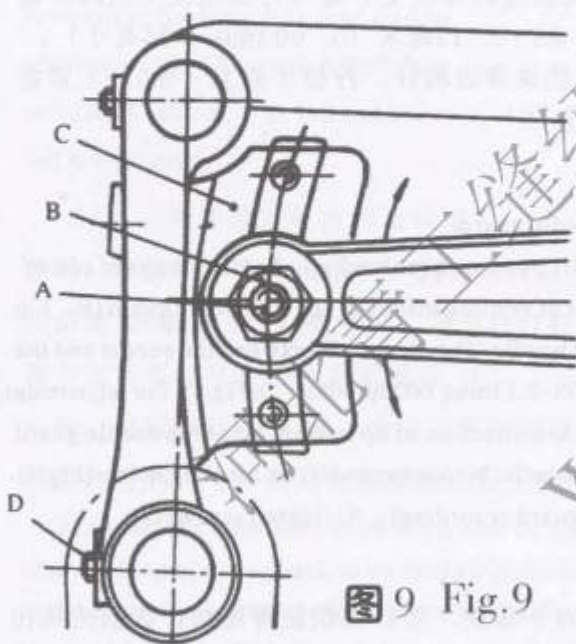

图9 Fig.9
送料牙在针板牙槽内的两侧面间隙不对称时，拧松板牙架座(图9, C)两只螺钉(D)，左右移动牙架座至要求位置后再拧紧螺钉(D)。
If feed dog are not in the center in the throat plate slots. Loosen screws rear in the feed locker (C, Fig. 9), move the feed locker right or left as required. Then retighten screws (D).
针距长短的调节,是通过牙架座(图9, C)扇形槽中的针距调节螺钉(A)的上下移动来实现的。下降螺钉(A)使针距加大,升高则缩短针距。调节时拧松螺母(B)、上下移动螺钉(A)至需要的针距后再紧固螺母(B)。(自动型式的机器需卸下罩壳时再调节)
The length of the stitch can be adjusted by raising or lowering the stud(A) in the segment slot of the feed locker (C, Fig. 9). Lowering the stud will shorten the stitch. Shorter, loosening nut(B), Stud(A) can be moved accordingly. When the desired stitch length is obtained, Retighten nut(B). (For automatic style machines the cloth plate should be removed to adjust.)